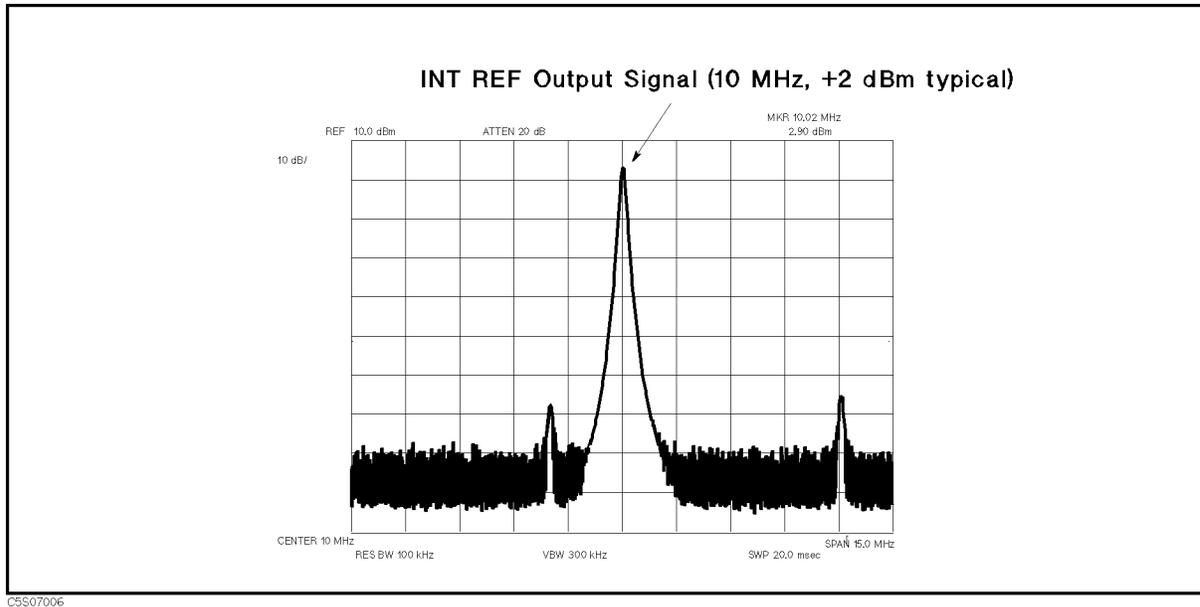

Figure 7-3. Typical INT REF Signal
- f. Check that the frequency is approximately 10 MHz and the level is $+2 \text{ dBm} \pm 4 \text{ dB}$. The INT REF signal should be as shown in Figure 7-3.